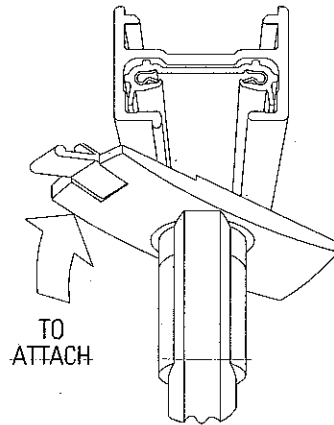

FIG. 2
2. Rotate FITTING 90° clockwise (see Fig. 2).